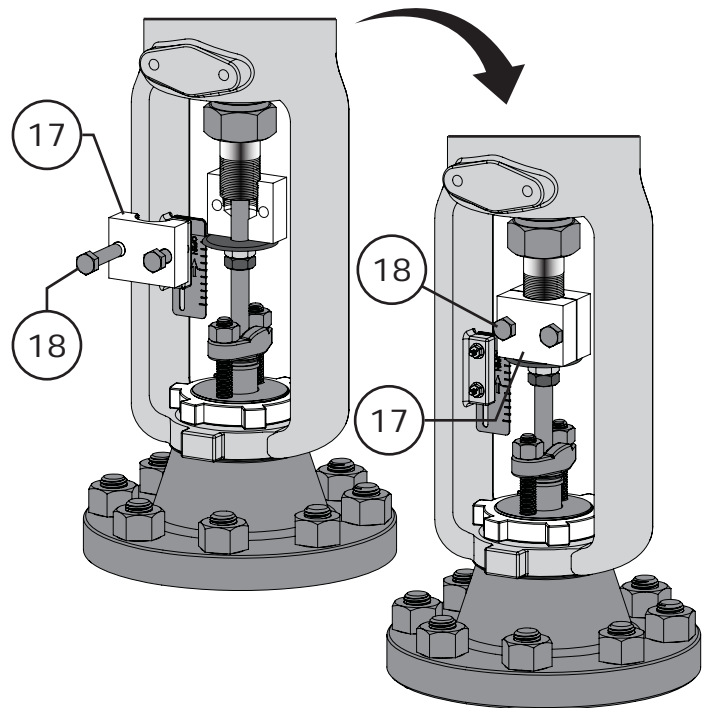

Figure 10 Standard DFO Connecting Block Assembly
- 1 The following procedures must be completed before installing the connecting block (Key 17). If the connecting block is still attached to the actuator stem (Key 9), remove it by removing the connector cap screws (Key 18). Refer to Figures 10 & 11.
- Align the connecting block (Key 17) with the window of the yoke (Key 1) and install the connecting block using cap screws (Key 18), refer to Figure 10. Be careful to achieve proper thread engagement between the stems and the connecting block, avoid cross-threading any threads. A slight change to operating pressure may be necessary to help with alignment. Tighten the cap screws to the torque value listed in Table 4.